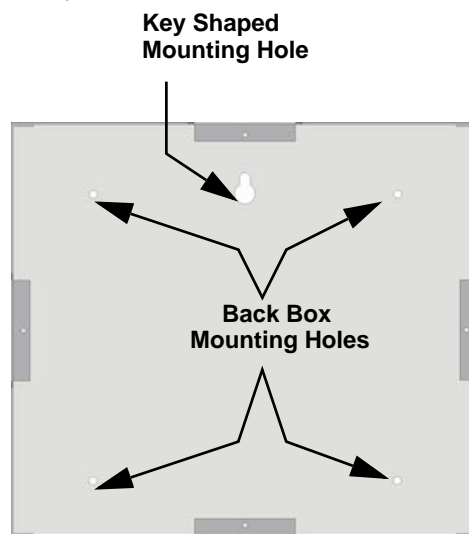

Figure 4.19 Back Box Surface Mount Holes
- To properly mount the back box, insert a single screw into the key shaped mounting hole. Do not tighten all the way. See Figure 4.19.